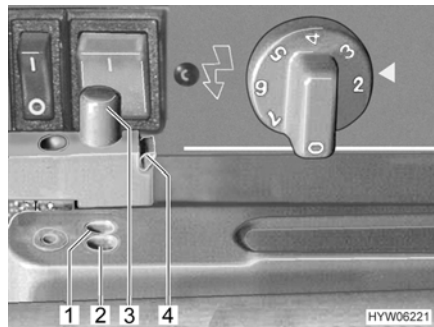

Fig. 86 Lock on refrigerator door (Dometic)
- Push the green retainer lock (Fig. 86,4) to the side to release the locking device. The bolt (Fig. 86,3) will trip.
- Press the bolt (Fig. 86,3) down, so that it engages in the outer drilled hole (Fig. 86,2).
- Press the bolt (Fig. 86,3) down, so that it engages in the inner drilled hole (Fig. 86,1). The refrigerator door will then stay slightly open.